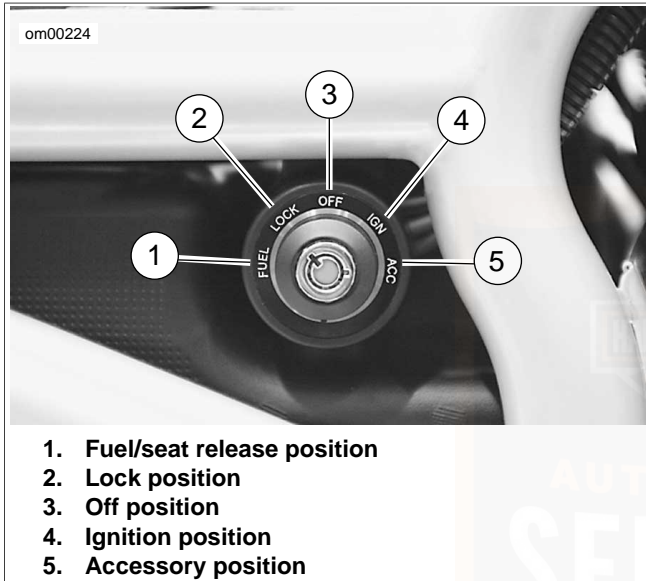

Figure 7. Ignition/Seat Release Switch: VRSC Models
1. See Figure 7. To remove the key from the ACC, IGN or OFF position, push the key in and turn it counterclockwise to the LOCK position.
2. See Figure 7. Turn ignition/headlamp key switch to ON and push the START switch to operate starter motor.
2. See Figure 7. Turn the ignition key to the OFF position to turn the ignition power completely OFF.